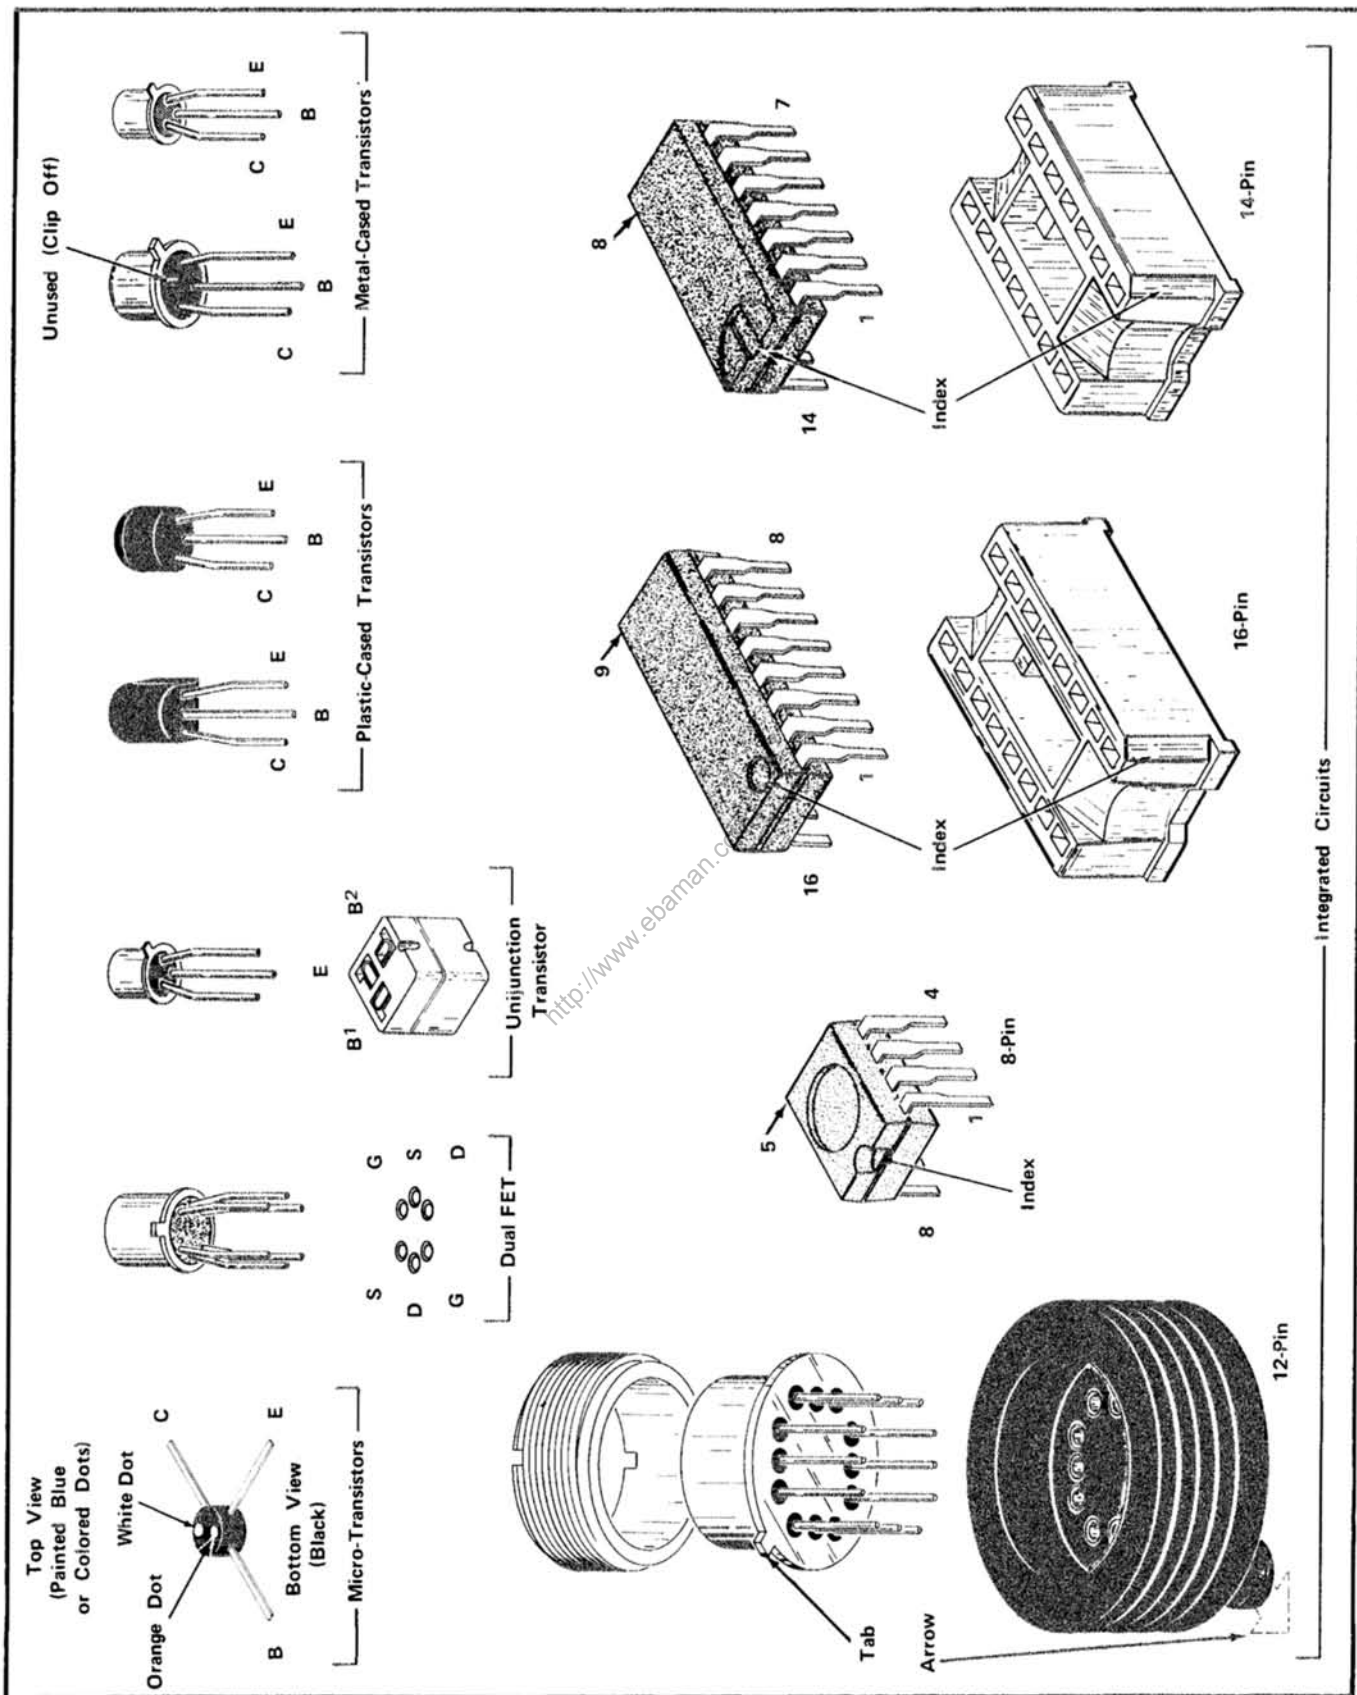

Fig. 4-1. Electrode configuration for semiconductors in this instrument.
Semiconductor Lead Configuration. Fig. 4-1 shows the lead configuration of the semiconductor devices used in this instrument.
A. TRANSISTORS AND INTEGRATED CIRCUITS. The best check of transistor and integrated circuit operation is actual performance under operating conditions. If a transistor or integrated circuit is suspected of being defective, it can best be checked by substituting a component known to be good; however, be sure that circuit conditions are not such that a replacement might also be damaged. If substitute transistors are not available, use a dynamic tester (such as Tektronix Type 576). Static-type testers may be used, but since they do not check operation under simulated operating conditions, some defects may go unnoticed. Fig. 4-1 shows base pin and socket arrangements of semiconductor devices. Be sure the power is off before attempting to remove or replace any transistor or integrated circuit.